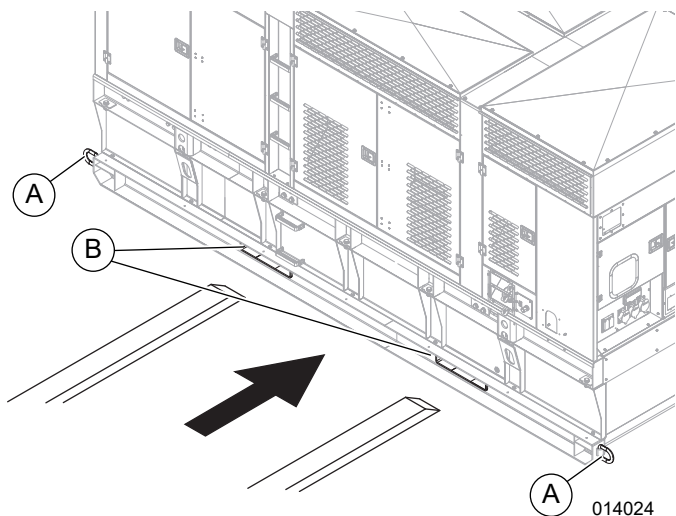

Figure 3-21. Skid-Mounted Unit
- See Figure 3-21. Skid mounted units can also be lifted using the fork pockets (B).